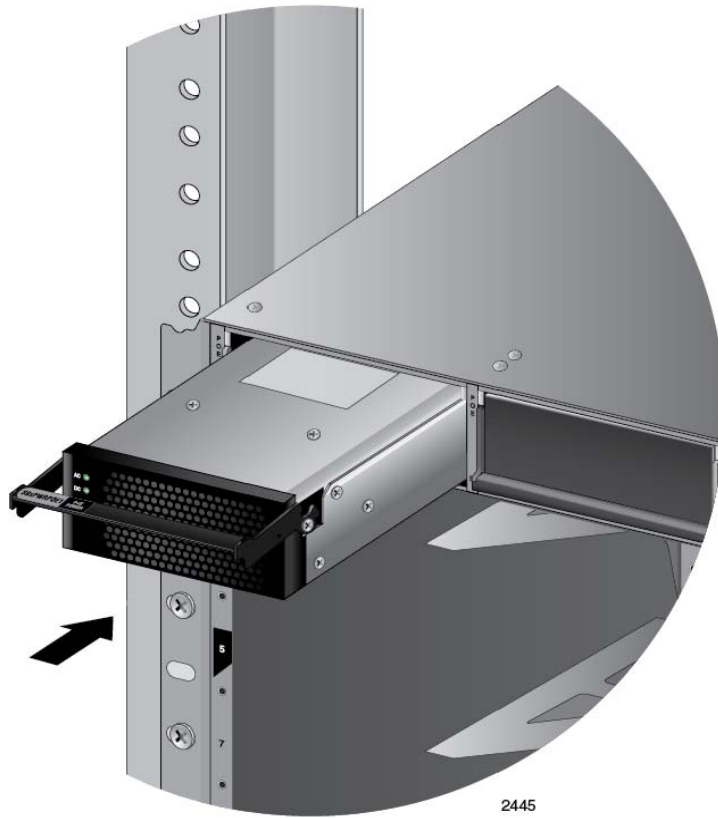

Figure 53. Inserting the AT-SBxPWRPOE1 Power Supply
6. Align and insert the AT-SBxPWRPOE1 Module into slot A or B. Figure 53 on page 117 shows the power supply module aligned in slot A.